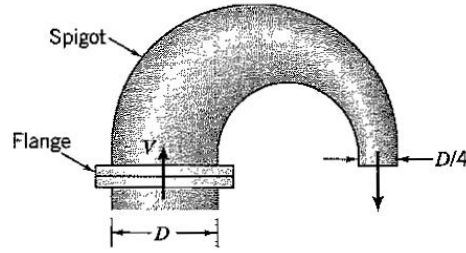

Figure P4.39
4.39 Water of density ρ issues from a spigot of circular cross-section into the atmosphere, as shown in Figure P4.39. At the flange, the velocity is V . The diameter decreases from D at the flange to $\frac{1}{4}D$ at the exit. Ignoring losses,